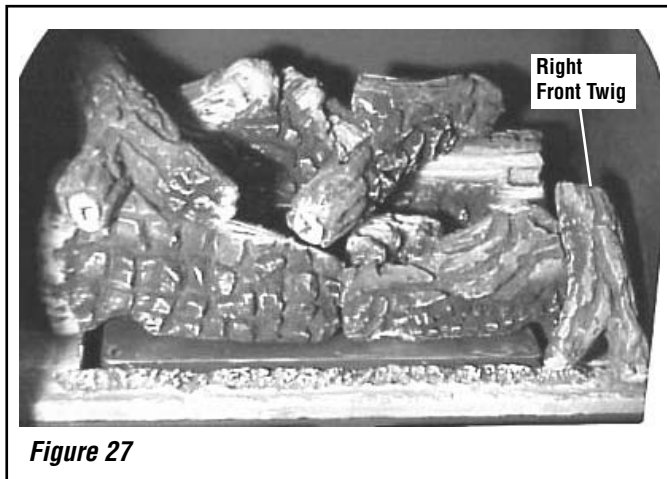

Figure 27
8. Install the front right twig onto the corresponding pin on the right front log. Align the twig with the indentation on the front right log as shown in **Figure 27**.